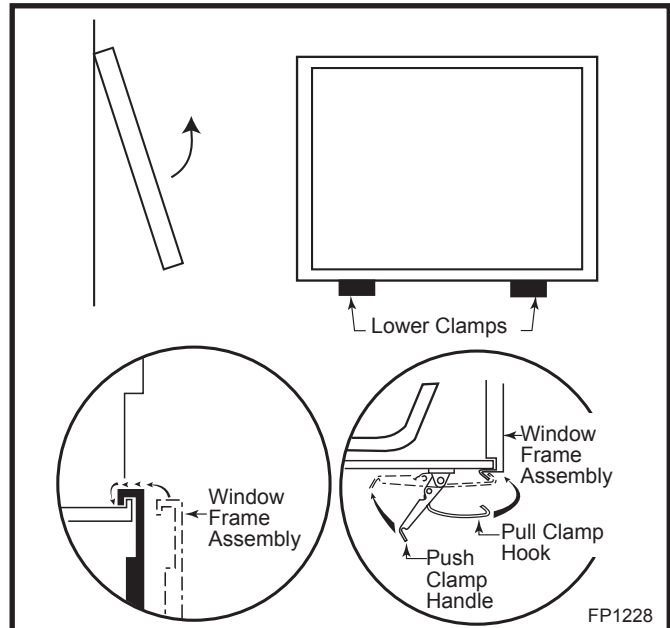

Fig. 57 Window frame assembly removal.
5. Release the two clamps securing the lower edge of the window frame assembly by pulling down on the handles. (Fig. 57)